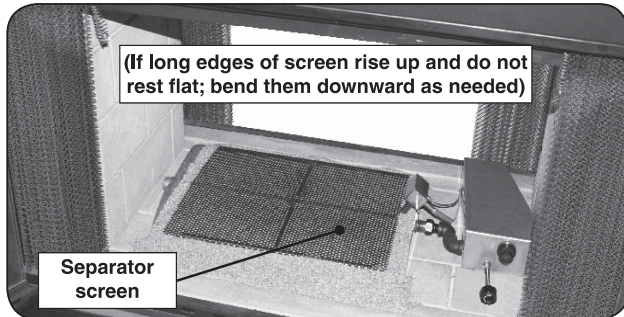

Fig. 9-2
2. Place the separator screen over the granules such that the long edges secure over the outside burner tubes, as shown in Fig. 9-2 and 9-3. If the long edges of the screen rise up and do not rest flat, bend them downward as needed.